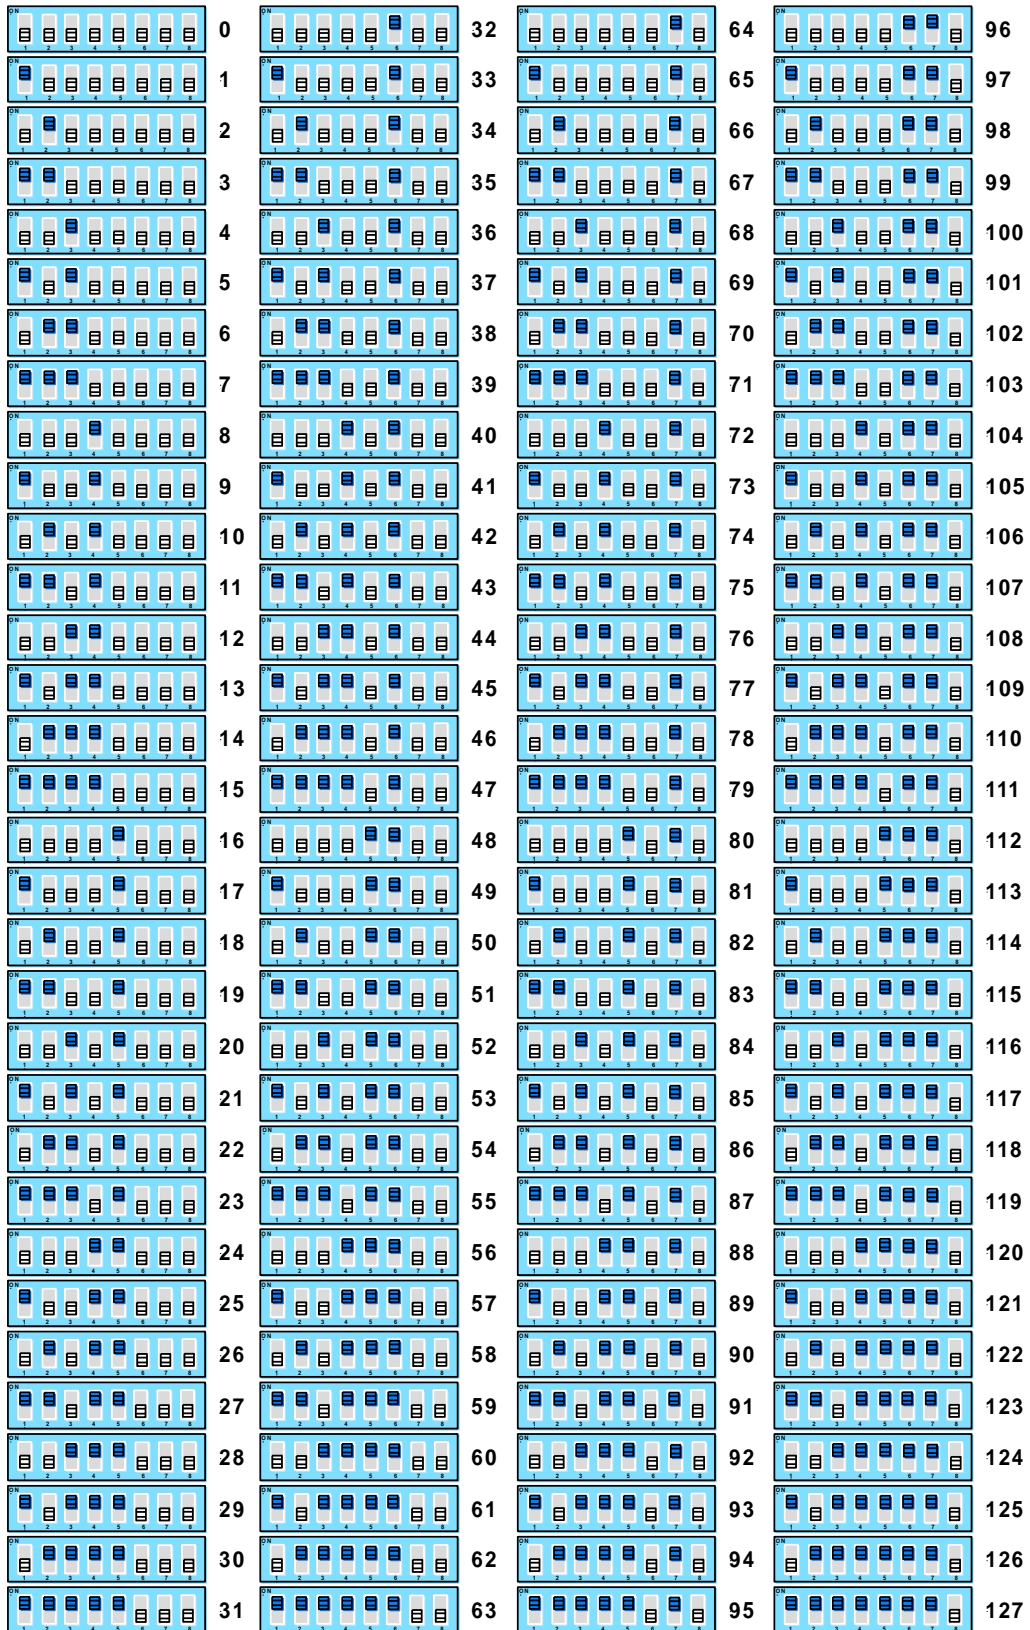

Figure 2: Address Switch Settings
4. Set the address of the MCP (See Figure 2)
5. Remove the two (2) thread protection plugs from the mounting box and fix the backing plate to it using the two (2) fixing screws supplied
6. Replace the facia by inserting the two (2) bottom locating pegs of the facia up into the bottom of the locating holes of the backing plate, close at the top, tighten the retaining screw then insert the key (as shown) to reset the operation element